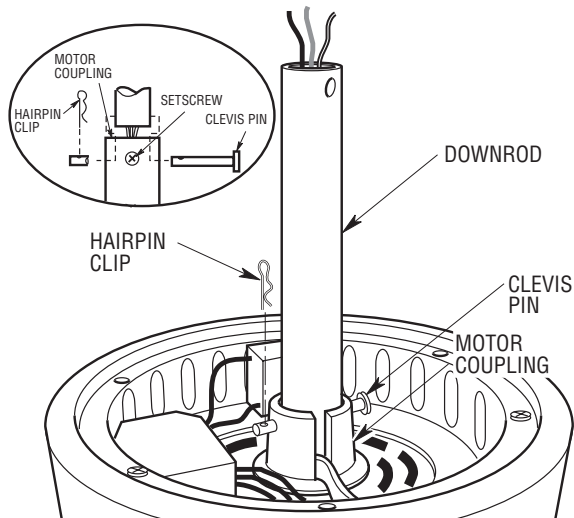

Figure 2
3. Separate, untwist and unkink the three motor leads. Route the motor leads through the downrod and seat the downrod in the motor coupling (Figure 2).
4. Align the clevis pin holes in the downrod with the holes in the motor coupling. Install the clevis pin and secure with the hairpin clip (Figure 2). (Pin and clip are supplied in loose parts bag.) The clevis pin must go through the holes in the motor coupling and the holes in the downrod. Push the straight leg of the hairpin clip through the hole near the end of the clevis pin until the curved portion of the hairpin clip snaps around the clevis pin. The hairpin clip must be properly installed to prevent the clevis pin from working loose. Pull the downrod to make sure the clevis pin is properly installed.
It is critical that the clevis pin in the motor coupling is properly installed and the setscrew is securely tightened. Failure to verify that the pin and setscrew are properly installed (as shown in Figure 2) could result in the fan falling.
5. Install the setscrew (supplied) in the motor coupling (Figure 2). While pulling up on the downrod, tighten the setscrew using the setscrew wrench (supplied).